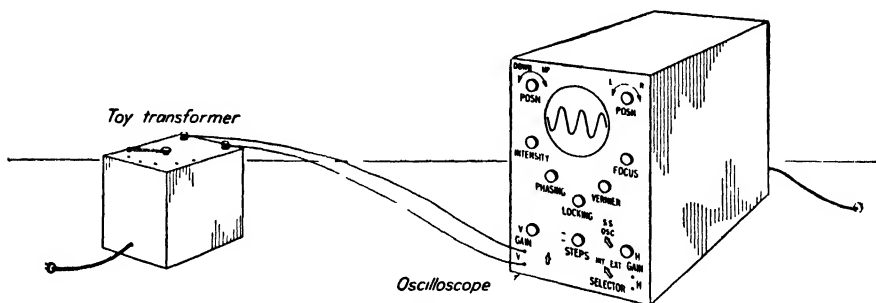

FIG. 83. Using an oscilloscope to study the wave form of the alternating current.
Show the alternating-voltage wave on the oscilloscope. You can use the oscilloscope to show the wave-form picture of an alternating voltage by connecting the secondary of a toy transformer to the binding posts that are connected to the vertical-deflection plates on the cathode-ray tube (see Fig. 83).
Step 1. Attach wires from toy transformer to V input of the oscilloscope (see Fig. 83). As a safety precaution make these connections before plugging in transformer or oscilloscope to power outlets. This prevents a spot being burned on the screen.